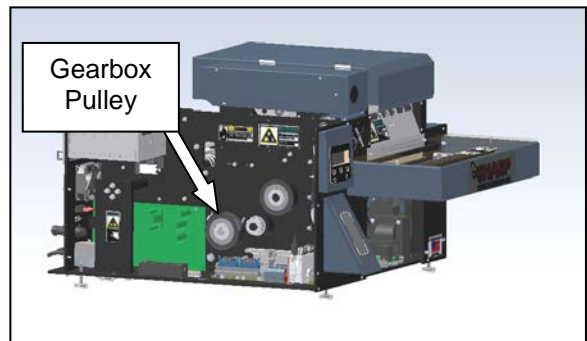

Figure 3-291. Gearbox Pulley
4. Spin the output shaft and pulley on the gearbox by hand (Figure 3-291). If the shaft is able to be turned, it is functioning properly. Note: the pulley on the gearbox will be difficult to turn with the belt for the pressure bar still attached, but will move with an adequate amount of force.